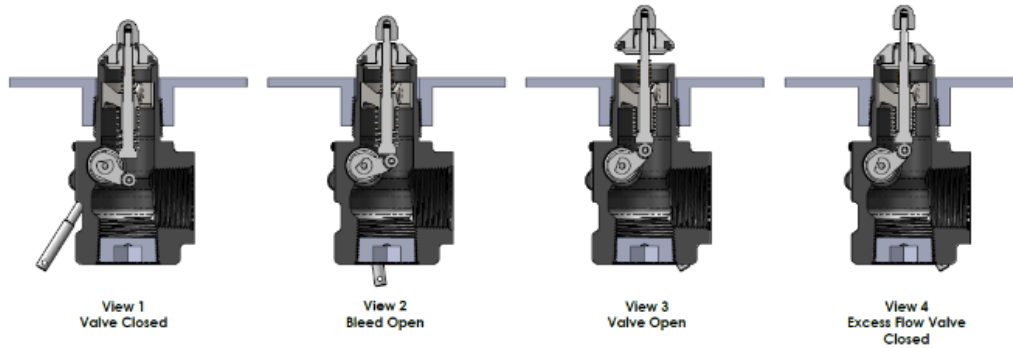

Figure 1: Operational Schematic
Refer to the operational schematic (Figure 1, View 1). The valve is held closed by both tank pressure and the valve's closing spring. There is no leakage past the resilient seals in the poppet to the valve outlet in this position.
The valve is opened by moving the operating lever to approximately midpoint in its 70° travel (Figure 1, View 2). This allows the cam to place the rapid equalization portion of the valve stem in the pilot opening, permitting a larger amount of product to bleed downstream than if the operating lever were moved to the full open position.
When tank and downstream pressures have equalized in the bleed position, (after a few seconds), the excess flow spring pushes open the main poppet (Figure 1, View 3) and the operating lever can be moved to the full open position.
Once the main poppet opens, a flow greater than the valve's excess flow spring rating or a sufficient surge in flow forces the main poppet closed against the excess flow spring (Figure 1, View 4). The pilot valve allows a small amount of product to bleed, but much less than (Figure 1, View 2) where the rapid equalization portion of the stem is placed in the pilot opening. When the operating lever is moved to the closed position, the valve closes completely and seals tightly (Figure 1, View 1).
2. Move the lever to the half-open (rapid equalization) position (Operational Schematic Figure 1, View #2) to equalize pressure. When the main poppet clicks open, move the operating lever fully open.